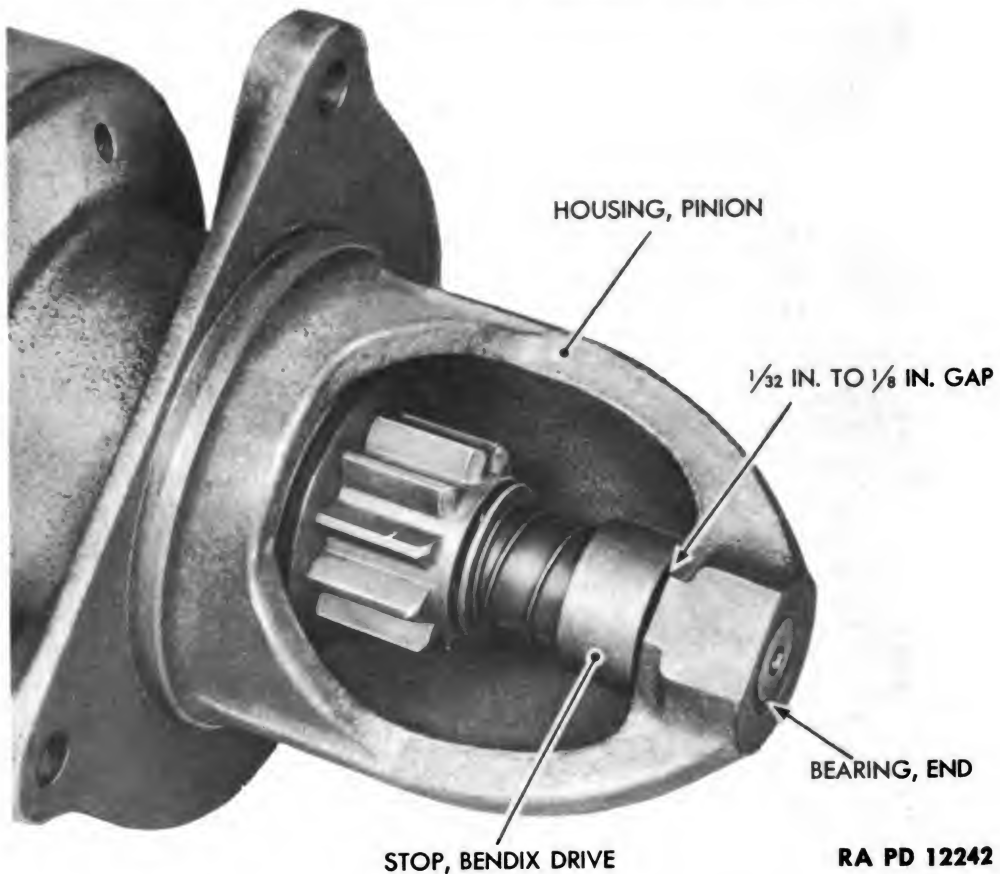

Figure 167 — Starting Motor Pinion Housing
c. Pinion Housing (fig. 167).
(1) Clean pinion housing in SOLVENT, dry-cleaning, and dry with compressed air.
(2) Examine pinion housing for fractures. Replace if broken.
(3) Fit armature shaft into the end bearing and check side play. If side play is more than barely perceptible, drive old bearing out and press in a new one. Press bearing flush with outer ends of bore in housing.